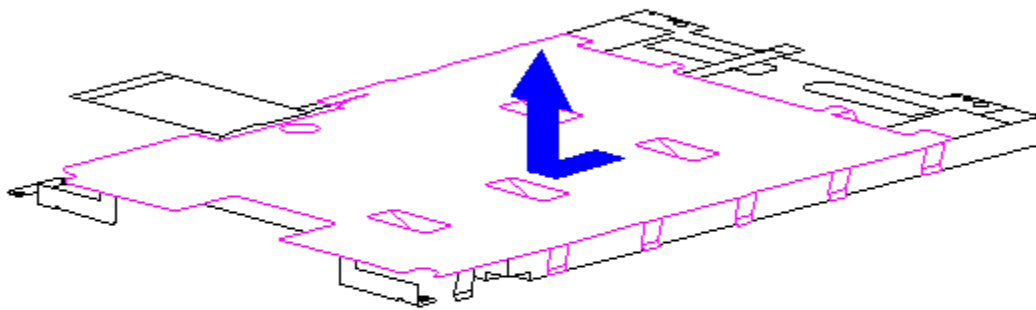

Figure 5-88. Removing the Display Shield from the CSTN (10.4 inch) Panel
15. Slide the display shield off the panel (Figure 5-88).